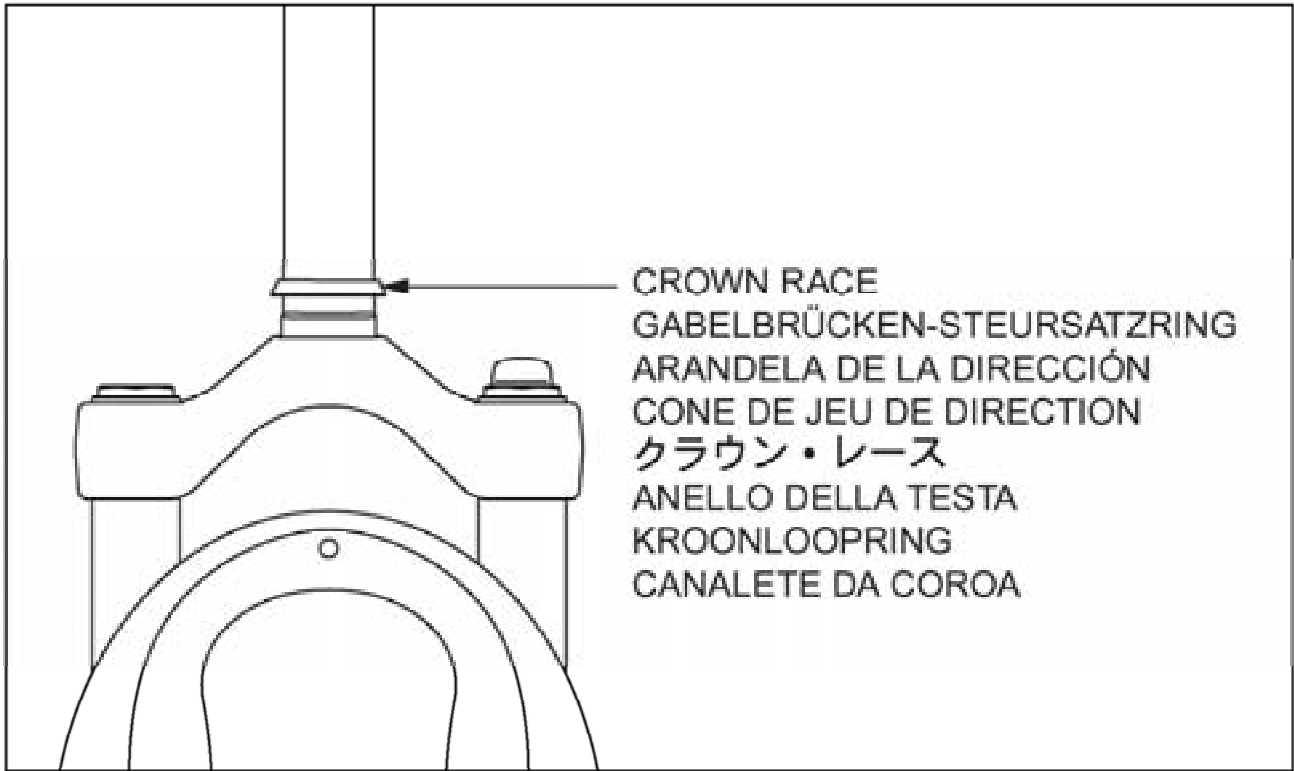

Fig. 1
2. Install the headset crown race (29.9mm for 1 1/8" steerers) firmly against the top of the fork crown (fig. 1). Install the fork assembly on the bike. Adjust the headset until you feel no play or drag.